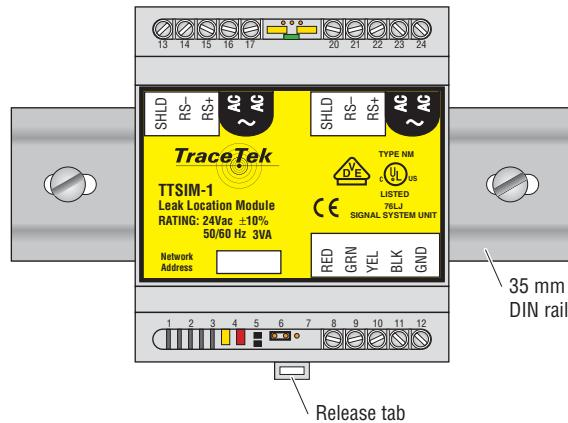

Figure 1. DIN Rail Mount
Mounting the TTSIM-1 module (without NEMA 4x Enclosure--Figure 1)
- **Note:** When properly oriented, there will be two terminal strips on the top of the module and one on the bottom. See Figure 1.